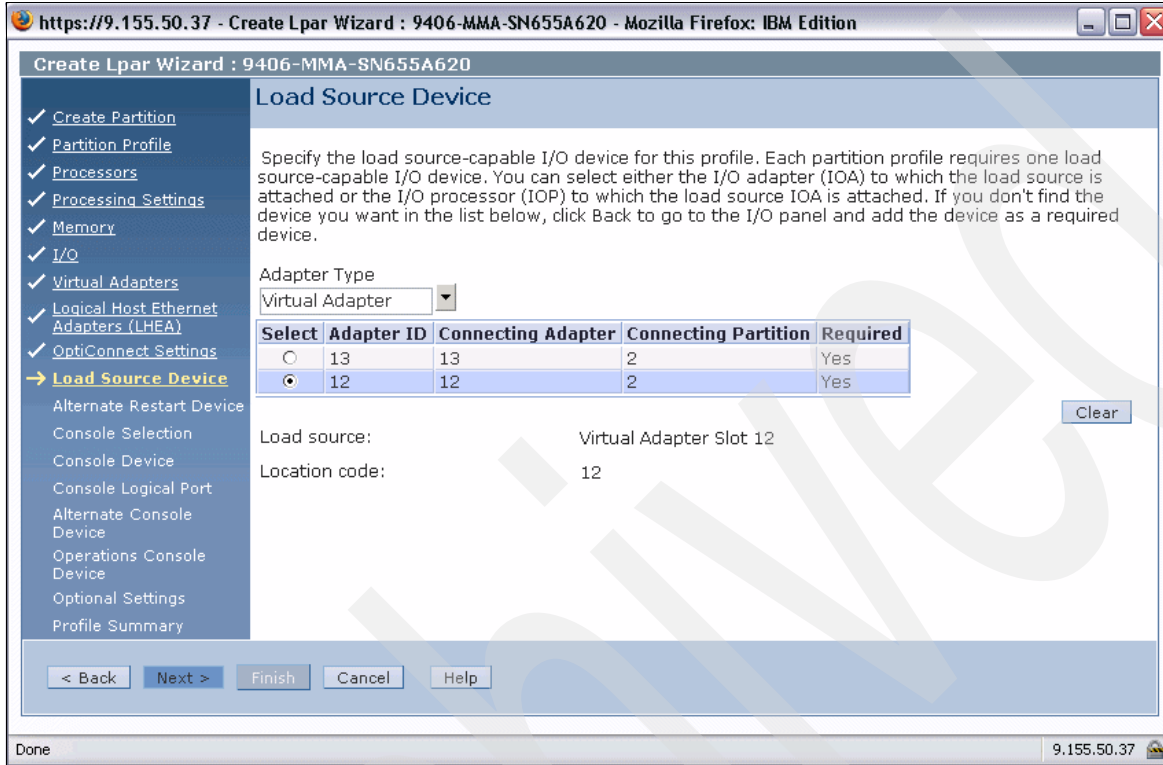

Figure 6-37 Create LPAR Load Source Device dialog
17. For the load source device of our IBM i client partition we choose **Virtual Adapter** from the Adapter Type drop-down list box, select adapter ID **12** to use the first virtual adapter as the load source adapter to which we will later map the DS4800 SCSI devices to (see 6.5, “Configuring VIOS virtual devices” on page 191), and click **Next** to proceed, as shown in Figure 6-37.